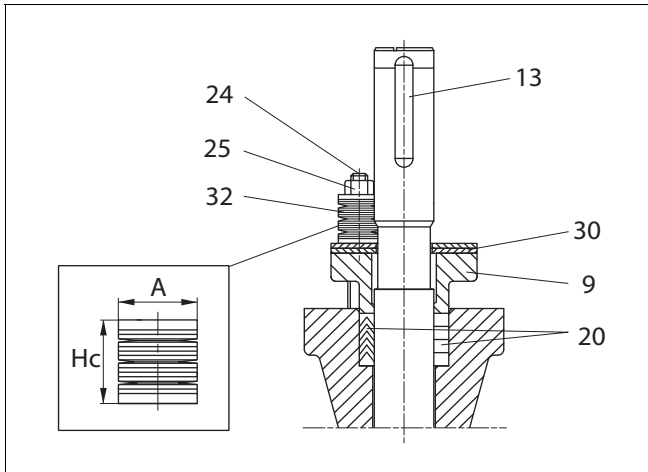

Fig. 18 Gland packing, RE/RE1
In gland packings, tightness is ensured by the contact between the gland follower and the packing rings. See Fig. 18.
- Remove the key (13).
- Remove the hexagon nuts (25), disc spring sets (32), one stud (24), retaining plates (30) and gland follower (9).
- Remove the packing rings (20) from around the shaft using a knife or some other pointed instrument without scratching the surfaces.
- Place the new packing rings (20) over the shaft (11). The gland follower may be used for pushing the rings into the counterbore. Do not damage packing rings in the shaft keyway. See Fig. 18.
- Deform the packing rings first by tightening the gland nuts (25) without disc springs to the torque T_t , see the value from Table 2.
- Remove the gland nuts and one stud. Mount the retaining plates (30) with the text UPSIDE on top and the removed stud and place the disc spring sets (32) on the gland studs. Tighten the nuts (25) so that the disc springs are compressed to the height H_c , see Table 2. Lock the nuts with locking compound e.g. Loctite 221. See Fig. 18.